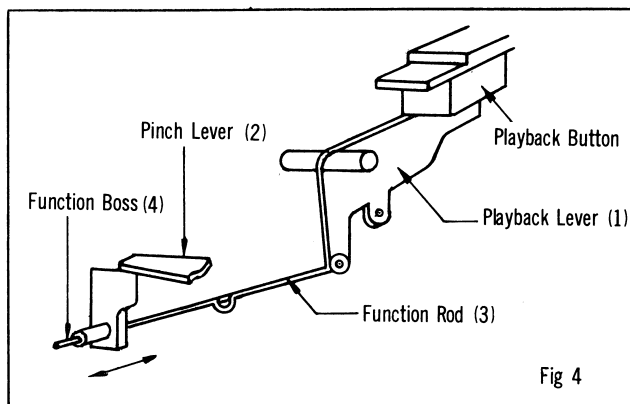

Fig 4
The aperture at this point and between the Head Pad and Head Surface are closely related, and if the opening is less than 2 mm it will be difficult to load the recording tape at the Head part also. To adjust the length of the Pinch Lever Function Rod (3) which connects Playback Button Lever (1) of Fig. 4 with Pinch Lever (2), it will be necessary to unscrew the Pinch Lever Function Boss (4) and melt the solder, and then move the Pinch Lever Function Boss in the direction of arrow. After the adjustment, remove the Capstan Sleeve and replace it with 4.75 cm/s and push the playback Button.
At this time the aperture between the Pinch Lever and Pinch Lever Function Boss should be 0.5–1 mm. (Fig. 4)